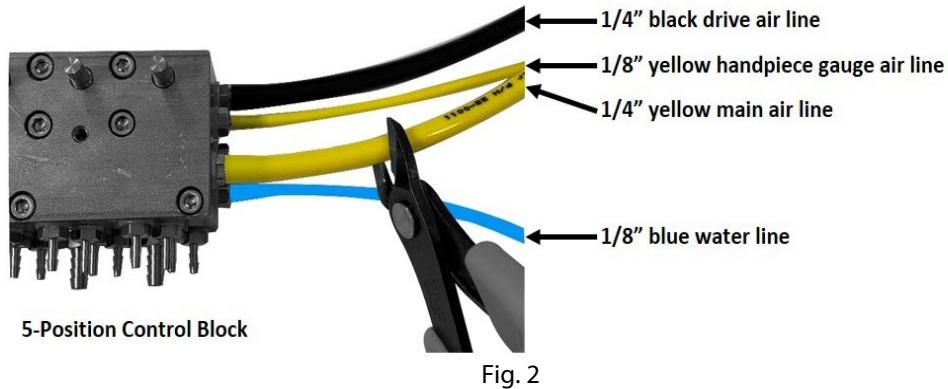

Fig. 2
- 4 Cut the black drive air line, yellow handpiece gauge air line, and yellow main air line tubings from the control block to about 2-3 inches in length. (Fig. 2)